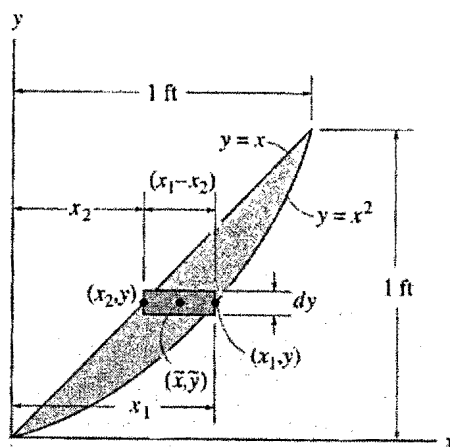

Figure 6-a
- a) Determine the moment of inertia of the shaded area by integration shown in Figure 6-a about the x-axis.
- b) For the area shown in Figure 6-b, determine